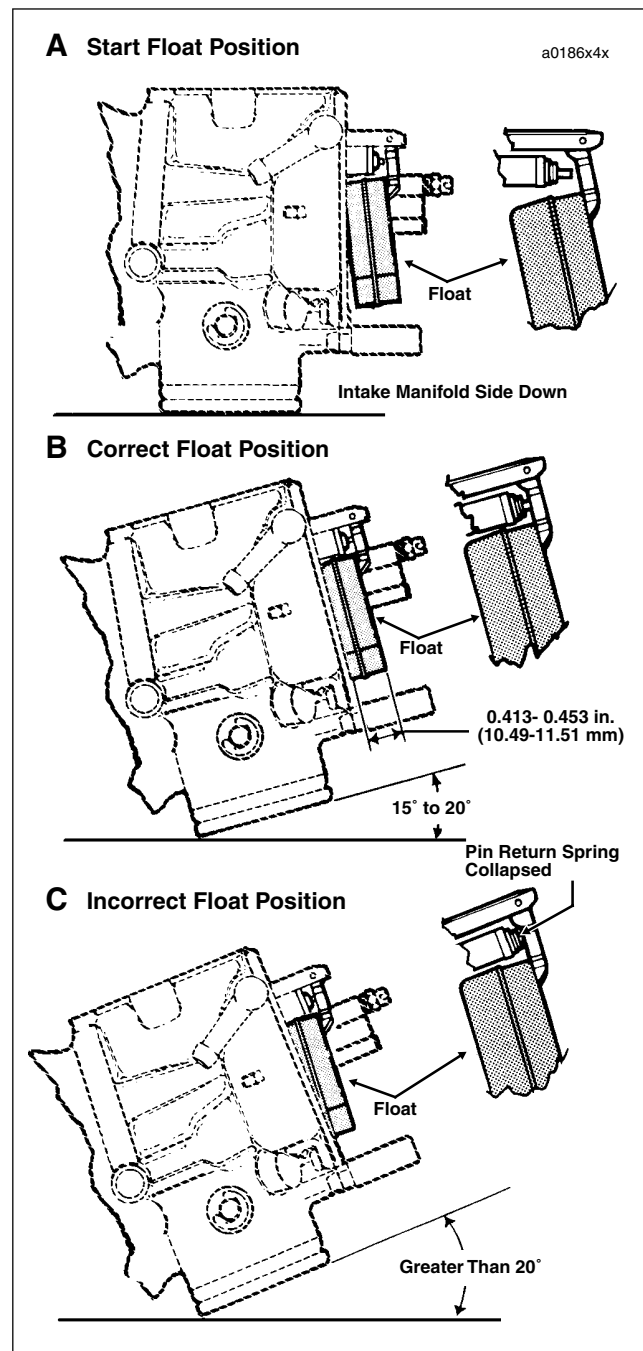

Figure 4-12. Float Check and Adjustment
- a. Place carburetor on a clean flat surface with the intake manifold side down. See A of Figure 4-12.
- b. Tilt the carburetor 15° to 20° in a counter-clockwise direction until float comes to rest. See B of Figure 4-12.